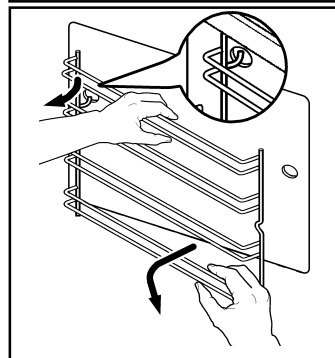

Fig. 26
- disengage the rear hook and take off the shelf support (Fig. 26);